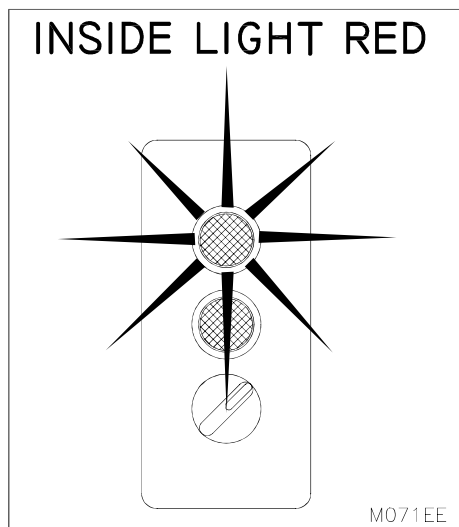
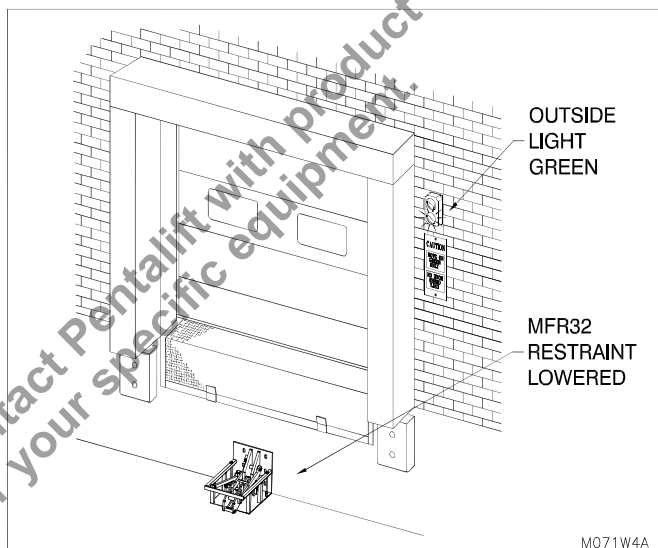

Figure 21: Set selector switch so inside red light is illuminated when ready to receive a vehicle
Figure 20: Dock Ready to Receive Vehicle
4. When the selector switch is set so that the red light on the control panel is illuminated the green outside light must also be illuminated. The green light on the control panel and the red outside light must not be illuminated (see “Figure 20: Dock Ready to Receive Vehicle” on page 20 and “Figure 21: Set selector switch so inside red light is illuminated when ready to receive a vehicle” on page 20).